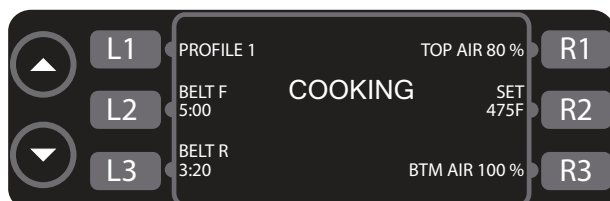
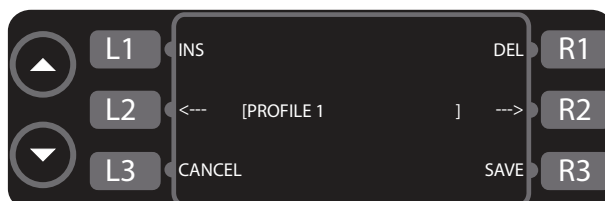

Figure 14: Cooking Screen
Figure 15: Name Change Screen
When the rigid option is enabled for a given setting, the soft key adjacent to that setting (Figure 14) is disabled and no menu editing is allowed.
- From the cooking screen (Figure 14), press L1 to access the name change screen (Figure 15).
1. From Figure 14, press the soft key adjacent to the conveyor belt you wish to adjust (press L2 for the front belt [Belt F] or L3 for the rear belt [Belt R]).
1. Press R2 (Figure 14, page 12) to access the temperature controls.
1. Press R1 (Figure 14, page 12) to access the top air controls, or R3 to access the bottom air controls.